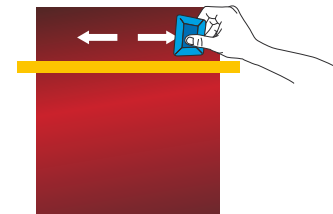

Figure04
- › Start applying the film with a squeegee (covered with felt beforehand), by forming a 45° angle with the substrate, and by working from the centre towards the edges. (FIG. 04)